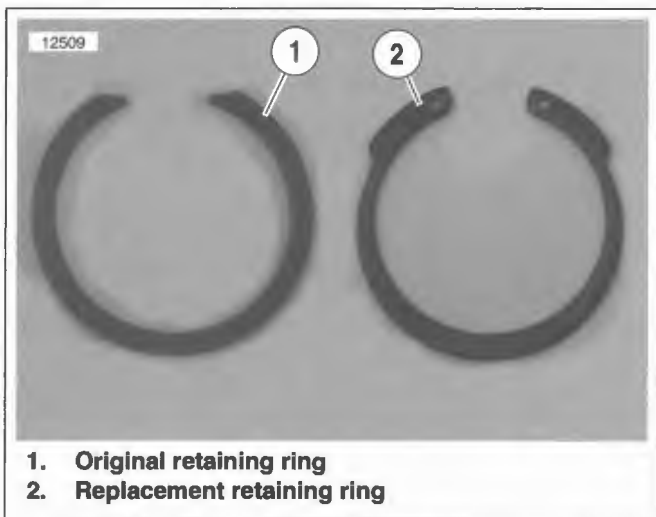

Figure 7-39. Installing Clutch Side Needle Bearing in Main Drive Gear
- See Figure 7-39. When replacing needle bearings, discard original retaining rings (1) and install replacement retaining rings (2).